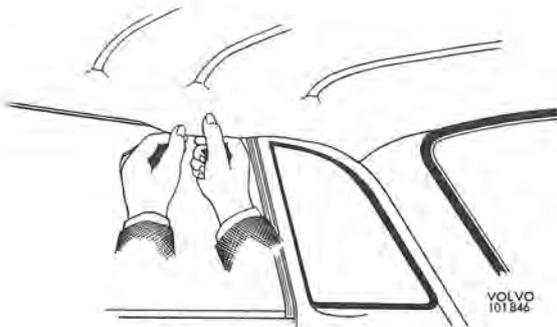

Fig. 8-32. Removing the headlining
2. Pull down the edge of the headlining with finger and thumb on one side as shown in Fig. 8-32 so that the plastic edge can be released from its fastening in the rail.